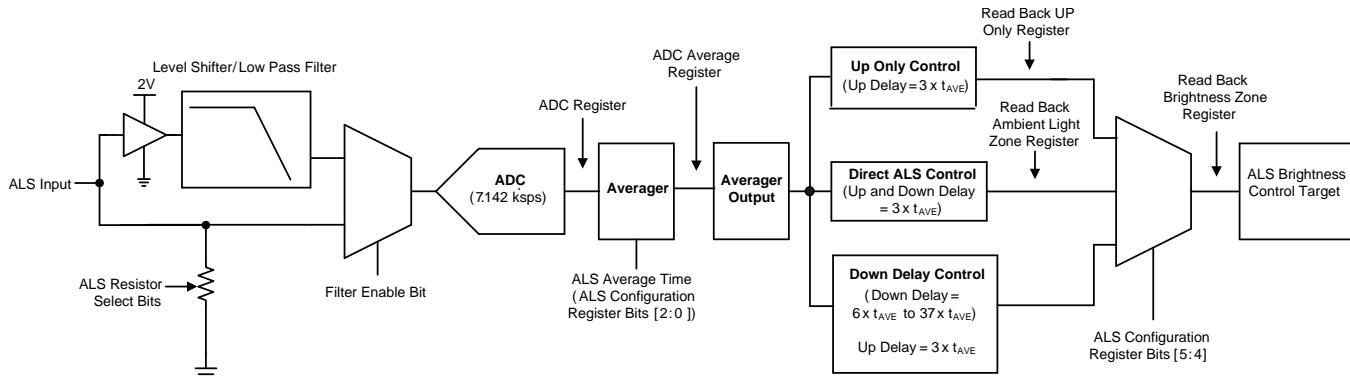
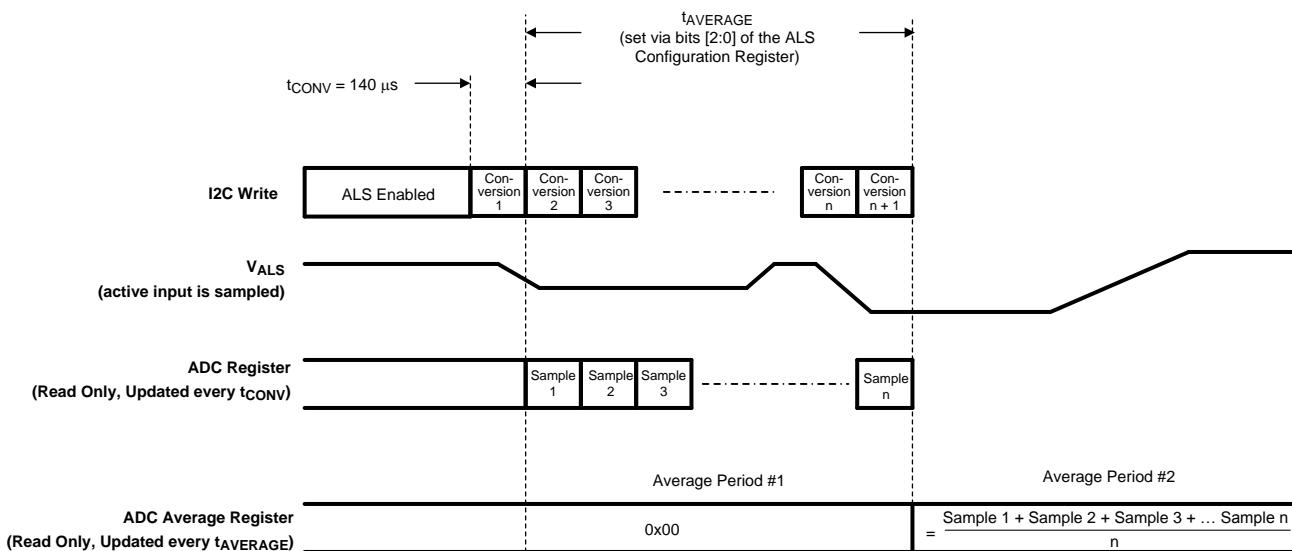

Figure 27. ALS Block Diagram
Figure 28. ADC Timing
Figure 27 shows the functional block diagram of the LM3533 device ALS interface.
The LM3533 digitizes the ALS voltage using an internal 8-bit ADC. The ADC is active as long as the ALS enable bit is set. Once set, the ADC begins sampling and converting the voltage at the ALS input at 7.142 ksp. The ADC output can be read back via the ADC register (address 0x37). With the ALS enable bit set, the ADC register is updated every 140 μ s. Figure 28 details the timing of the ADC.
Once digitized the output of the ADC is sent into the ALS averager. The averager computes the average of the number of samples taken over the programmed average period. The ALS average times are set via bits [5:3] in the ALS Configuration Register. The output of the ALS average can be read back via the ADC Average register (address 0x38). With the ALS Enable bit set, the ADC Average register is updated after each average period (see Figure 28). After every average period the Averager Output stores the information for which brightness zone the ALS input voltage resides in (see Figure 27).
5. The Averager Output (see Figure 27) contains the zone that is determined from the most recent full average period.